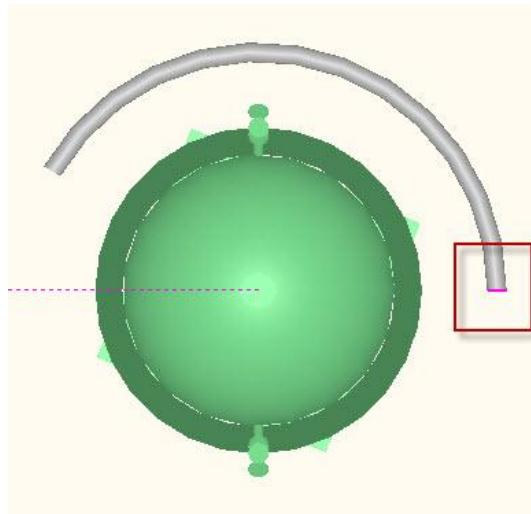

Figure 11.14: End Feature Selection
25. Select the End Feature of the 1st placement point of the pipe as shown in Figure 11.14.